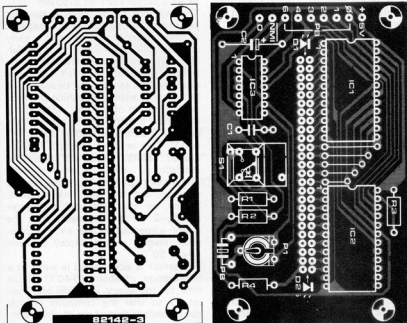

Figure 4. The printed circuit board for the process timer has been designed to fit the BOC 430 case from West Hyde.
Figure 4 shows the printed circuit board and component overlay for the process timer. This has been designed so that it can be mounted into a BOC 430 case from West Hyde. A slot is needed in the top of the case to accommodate the LEDs (25). Do not forget to make the necessary holes for the press-switches. For a graduated scale and indicator we suggest two strips of card fitted on either side of the LEDs. On the one side a series of numbers (for the LEDs), and process periods on the other. The photograph in figure 5, gives good idea as to how this proposal will look. For the prototype we used, the first block to denote the development, the second for the stop bath and the last for the fixer. In order to keep to this time frame, the alarm must be programmed to sound when the 10th, 13th, and 19th LED is on.